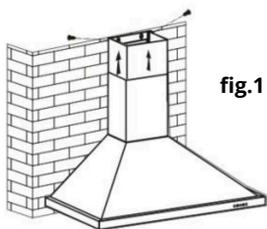

fig.1
2. Fix the lower chimney with 24x8mm screws (see fig.1 below)